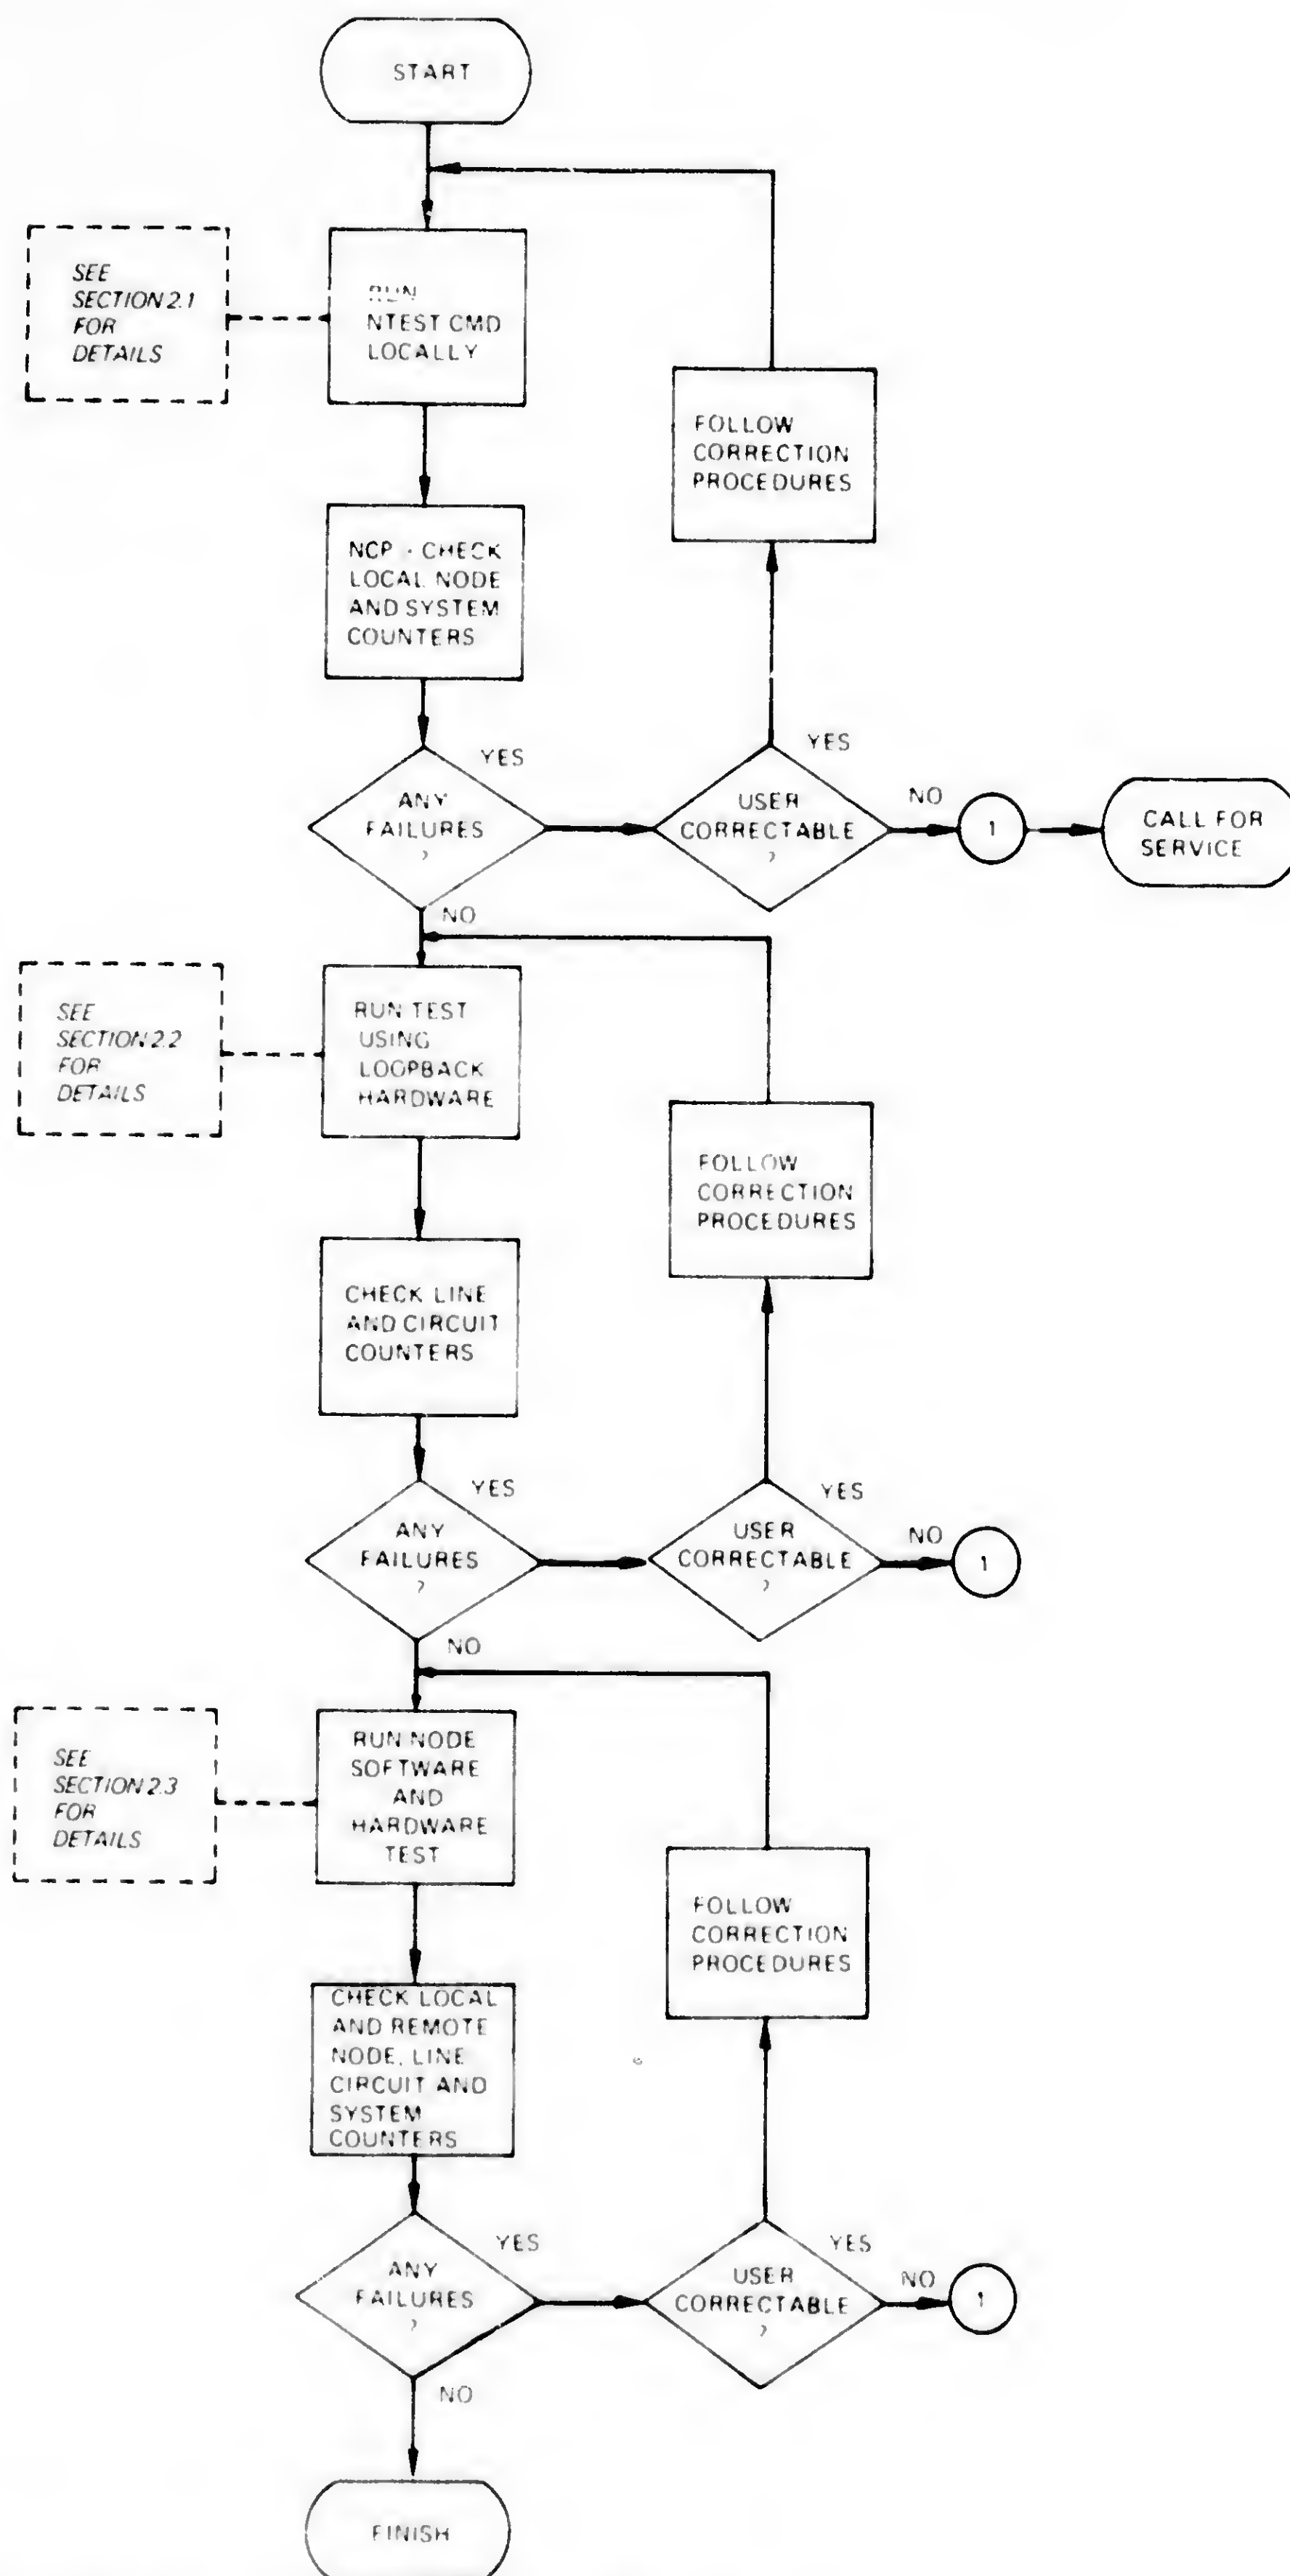

Figure 2-1: Installation Test Flowchart
- The third test checks your local node's ability to communicate with a remote node (see Figure 2-1).